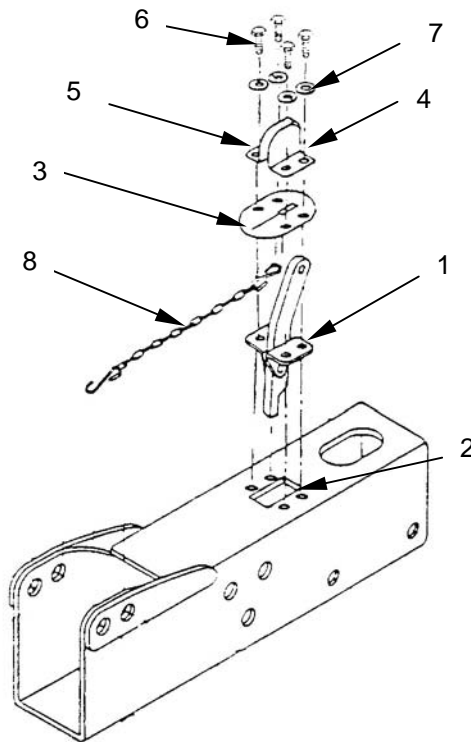

Figure 19. Breakaway Assembly
- a. Place the breakaway lever assembly (**figure 19, item 1**) into the mounting hole (**figure 19, item 2**).
- b. Position the weather seal (**figure 19, item 3**) on top of the breakaway assembly.
- c. Attach the left (**figure 19, item 4**) and right (**figure 19, item 5**) breakaway locks using the bolts (**figure 19, item 6**) and lockwashers (**figure 19, item 7**).
- d. Attach chain (**figure 19, item 8**) to breakaway lever.